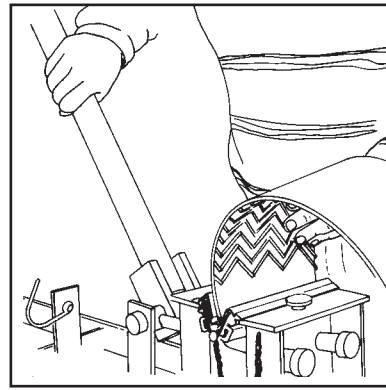

Figure 6
**9. INSERT BELT INTO LACER BETWEEN HOOK POINTS.** Center belt flush onto hook retainer and press Power Lever down. When hook points penetrate belt, press down with both hands until lever comes to a complete stop (Fig. 6).